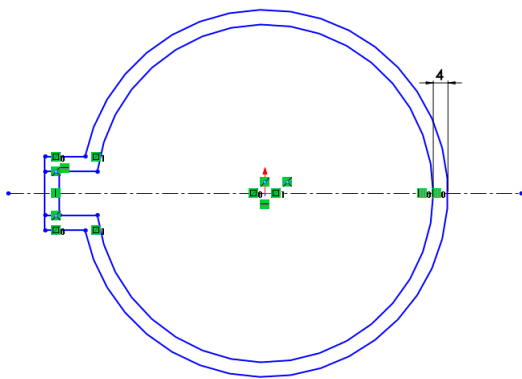

Figure 3-71 Sketch after extending the lines
- Complete the final editing of the sketch using the **Extend Entities** and **Trim Entities** tools, refer to Figures 3-71 and 3-72.
4. Similarly, extend the upper horizontal line of the inner sketch. The sketch after extending the lines is shown in Figure 3-71.